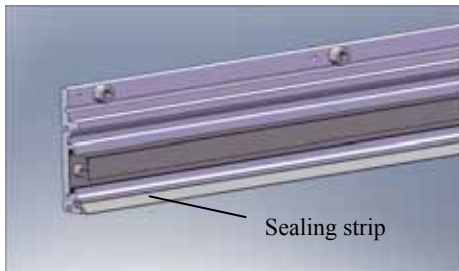
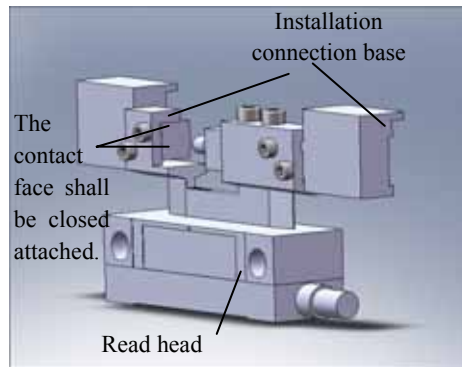
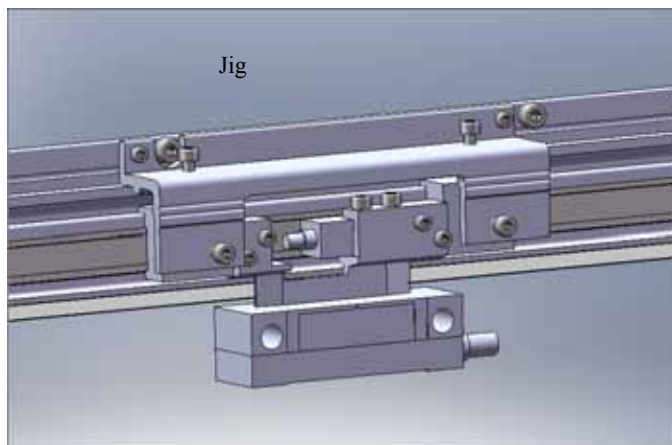

Fig. 5.8 Installation of sealing strip
Fig. 5.9 Read head installed to the connection base
Fig. 5.10 Positioning of jig
- (6) **Installation of read head:** Put the sealing strip through the  $\Phi 4$  hole, with the toothed edge upwards (Fig. 5.8). Install the connection base symmetrically on both sides of the read head, with the base closely placed to the both contact face as shown in Fig. 5.9. Fix the read head to the scale casing with a jig as shown in Figs. 5.10 and 5.11.